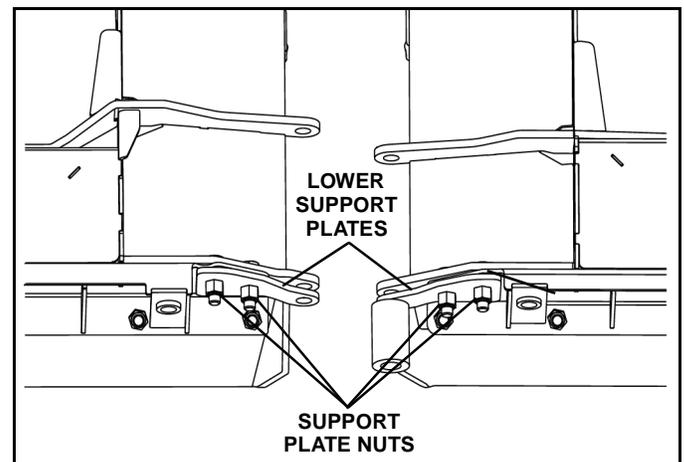

Figure 1-5
3. To aid in the pin installation as the blades are installed, loosen two nuts securing each lower support plate to the DS and PS wings. (See Figure 1-5)